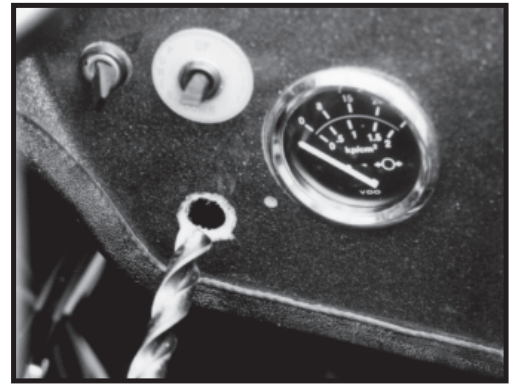

Fig. 13
- Step 11: Find a good location for the up-down toggle switch. This toggle switch should be located for easy access while operating the throttle. Use a 1/2 inch drill to drill a hole at the chosen location taking care not to damage wires or brackets (Fig. 13)